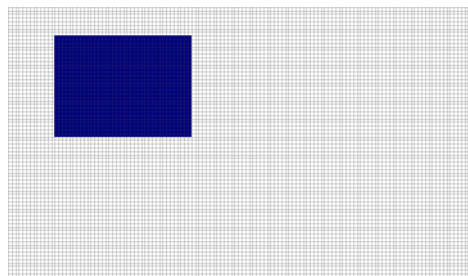

Figure 145 Add Streaming Control
2. Click on the schematic window and expand out the required area for the Streaming Control, as shown in Figure 145